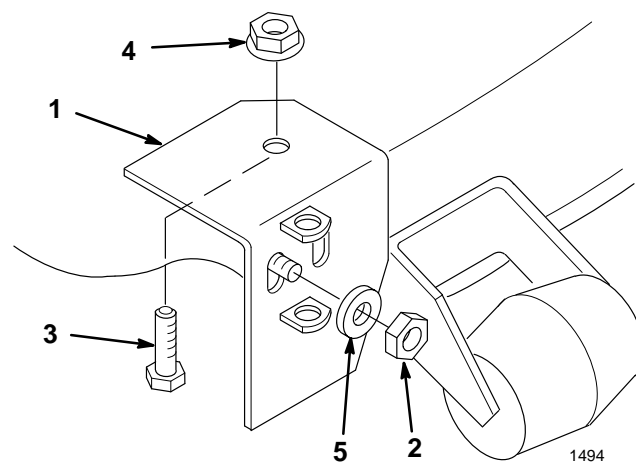

Figure 38
1. Remove the pivot support from the mower (Fig. 38).